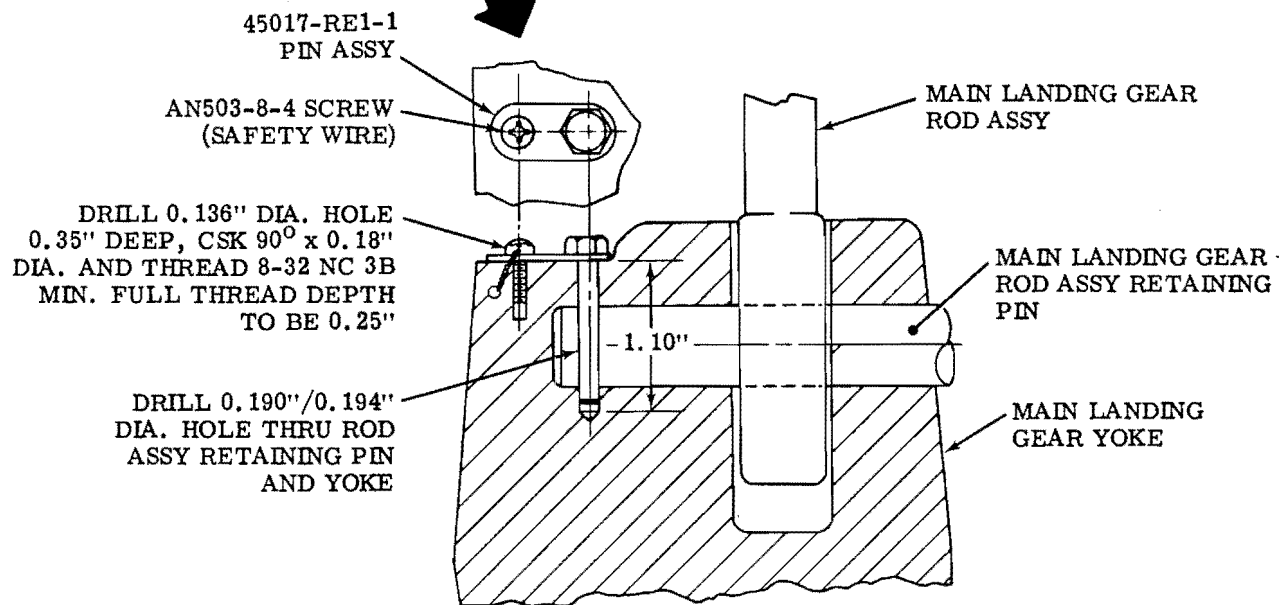

Figure 1.
3. Remove existing left and right main landing gear rod assembly retaining pins (see Figure 1.).
4. Line drill 0.192 (\pm 0.002) inch diameter hole through existing threaded hole in rod assembly retaining pins (see Figure 1.).
5. Line drill a 0.192 (\pm 0.002) inch diameter hole through existing hole in left and right main landing gear yokes (see Figure 1.).
6. Install existing rod assembly retaining pins and 45017-RE1-1 pin assembly (2 places) (see Figure 1.).
7. Using 45017-RE1-1 pin assembly as a template, drill and tap pin assembly attaching hole (see Figure 1.).
8. Install AN503-8-4 screw and safety with 0.032-inch diameter stainless steel safety wire (see Figure 1.).